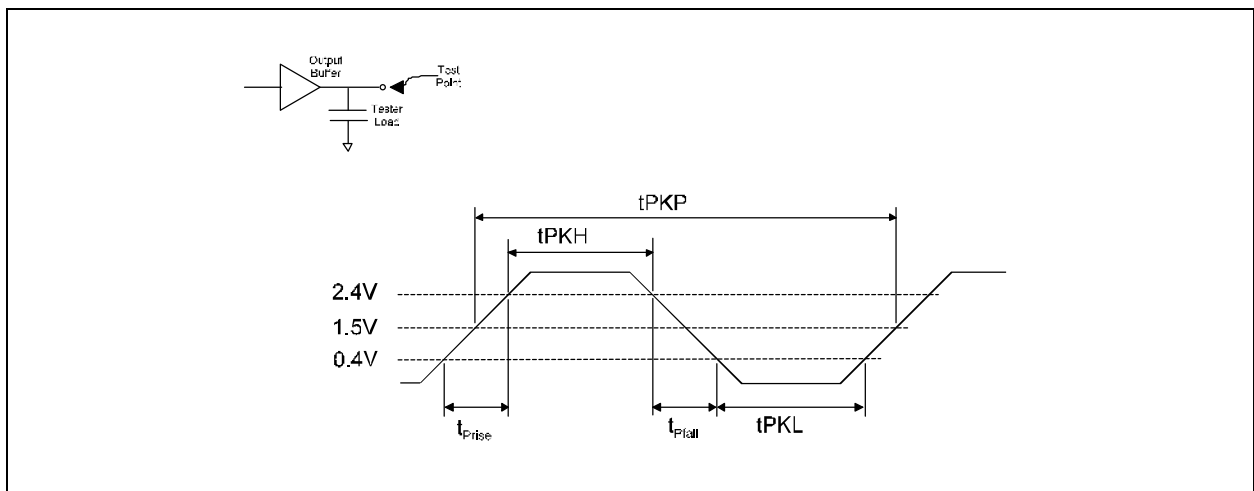

Figure 4-4. Clock Waveform
4. tPKH is measured at 2.4V as shown in Figure 4-4.
5. tPKL is measured at 0.4V as shown in Figure 4-4.